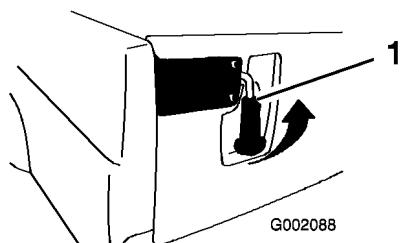

Figure 15
- To open the tailgate latches, lift the latch handles up (Figure 15). The latches will spring out toward the center of the tailgate. Slowly lower the tailgate.